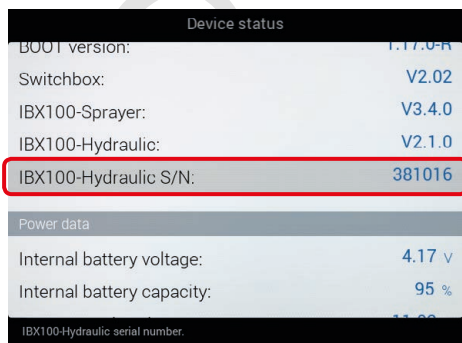

Fig. 7
- hydraulic control unit serial number ("SERIAL NO." label on the back of the control unit), visible also in the monitor menu Device status (example of Fig. 7).